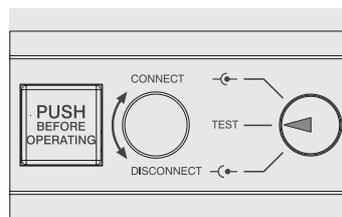

Figure 97
- circuit-breaker in test position (see Figure 97)